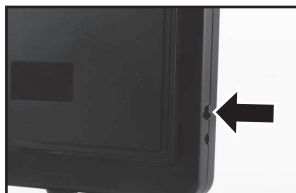

Figure 3
3. Open the shield cover and turn on the power as figure 3 show.